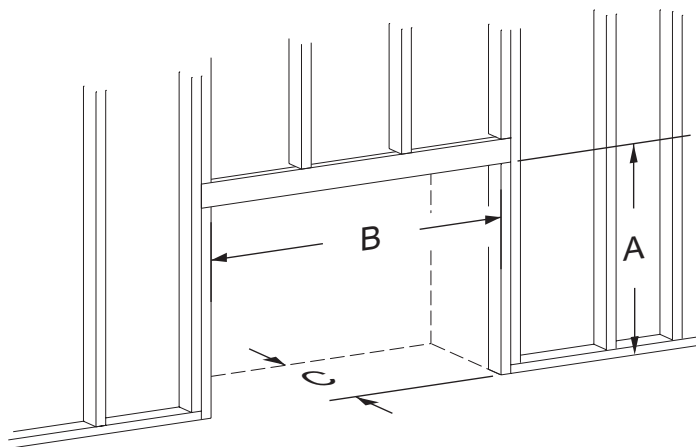

Figure 19 - Rough Opening for Installing in Wall
- Use dimensions shown in Figure 19 for a conventional rough opening.